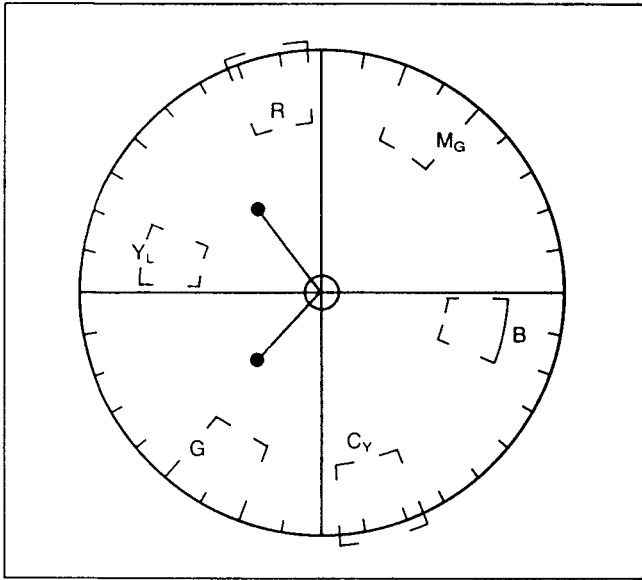

Fig. C27
- (1) Aim the camera at the white chart using a 3200 degrees K Halogen lamp.
- (2) Supply the video signal to the vectorscope.
- (3) Attach the color temperature conversion filter (VFK0375) which converts 3200 degrees Kelvin to 3400 degrees Kelvin in front of the Lens and AWT Sensor. (Refer to Note 1 of item. 15-3)
- (4) If the colour temperature conversion filter is not available, use a day light source. (Refer to Note 2 of item. 15-3)
- (5) Adjust the AWT (R-Y GAIN) and AWT (B-Y GAIN) Controls (VR103 and VR104) so that the color vectors move to the centre of screen on the vectorscope. (Refer to Fig. C27.)